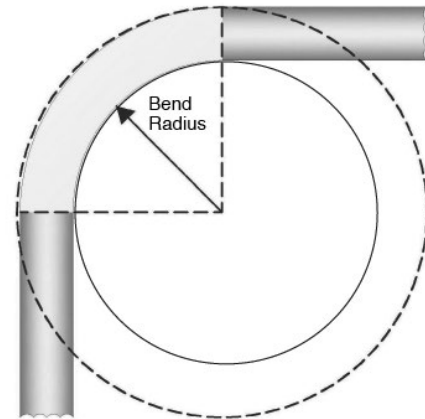

Fig. 4-1
- f) Avoid stressing the tubing or fittings with tight bends, kinks, twists, stretching or repetitive bending. Refer to Table 4-1 below for the recommended minimum bend radius for Gastite®/FlashShield™ CSST (Fig. 4-1).